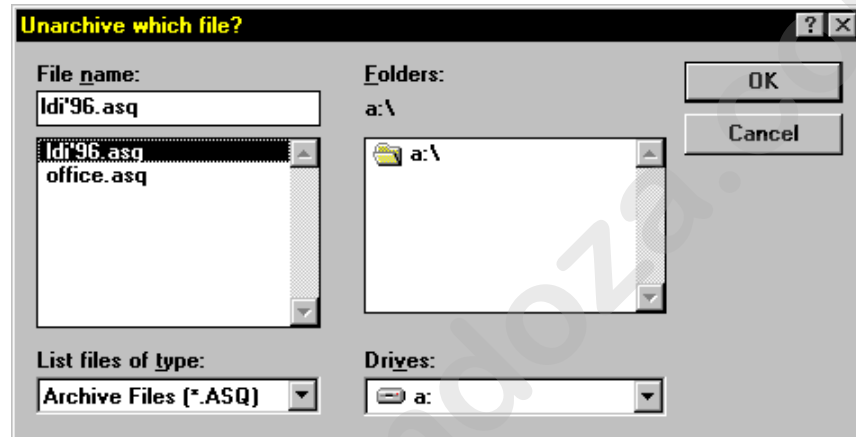

Figure 9.6. Unarchive Which File Dialogue Box
1. Select **Unarchive...** from the **File** drop-down menu. This brings up the **Unarchive which file?** dialogue box. Refer to Figure 9.6.